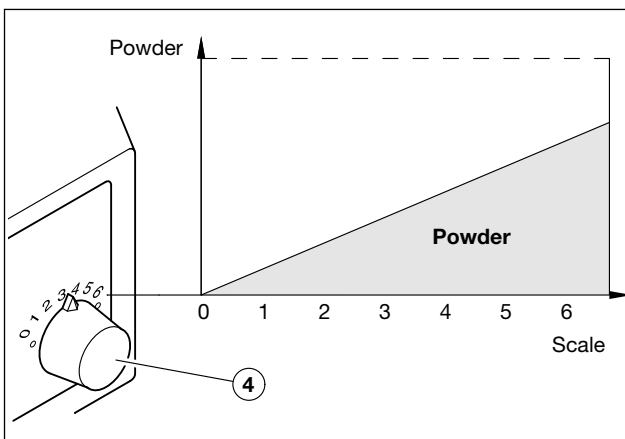

Fig. 2 Regulate mixture ratio
The powder-air mixture can be regulated on the scale to the desired powder quantity by the mixture control unit ④ (Fig. 2)